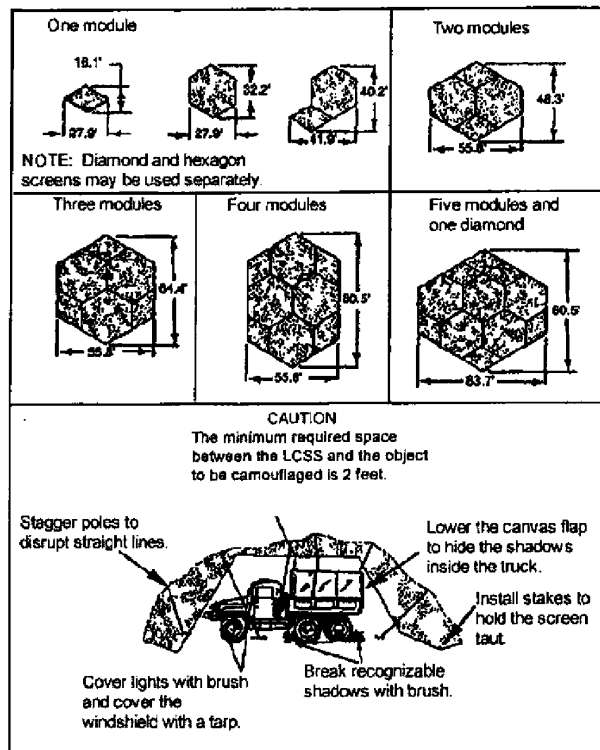

Figure 052-191-1362-1. Camouflage nets
2. Use the LCSS or natural camouflage materials to break up the shape and outline of the equipment so it blends in with the surrounding area. (figure 052-191-1362-1)